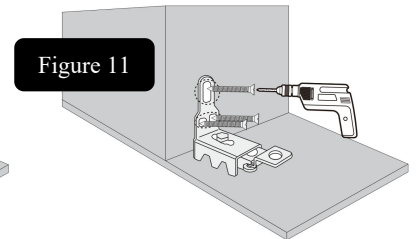

Figure 11
- Step 3:** Fasten lower jamb pivot to jamb using long screws as shown (Figure 11).